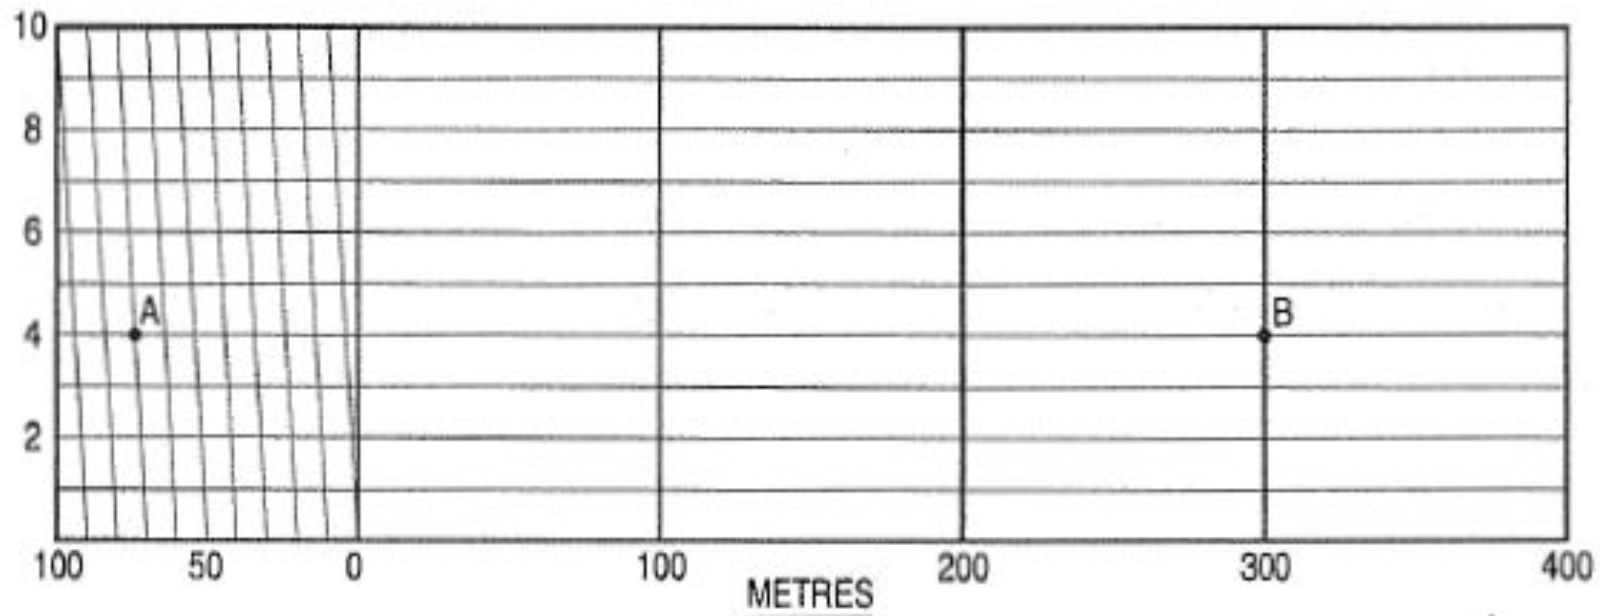

FIG. 4-8
**Problem 4-7.** (fig. 4-8): Construct a diagonal scale of R.F. =  $\frac{1}{4000}$  to show metres and long enough to measure upto 500 metres.